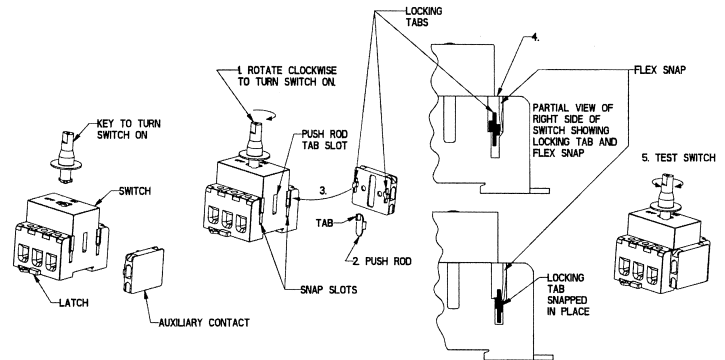

FIGURE 2
B. Attaching the Auxiliary Contact to the SWITCH (SEE FIGURE 2)